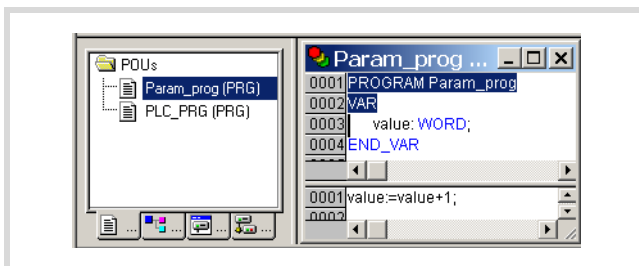

Figure 37: POU for event-triggered task
- ▶ Enter the program as shown in figure 37. The program "Param\_prog" is processed if the variable a = TRUE. The variable "value" is then incremented by 1.